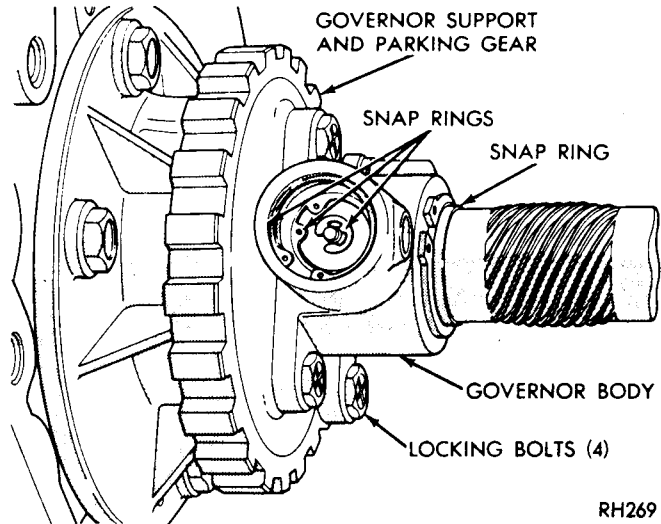

Fig. 10—Governor Snap Rings
(1) Remove extension housing and output shaft bearing as previously described.
(2) Carefully pry snap ring from weight end of governor valve shaft (Fig. 10). Slide valve and shaft assembly out of governor body.
(3) Remove large snap ring from weight end of governor body, lift out governor weight assembly.
(4) Remove snap ring from inside governor weight, remove inner weight and spring from the outer
(1) Assemble governor body and screen to the support and tighten bolts finger tight. Make sure oil passage of governor body aligns with passage in the support.
(2) Position support and governor assembly on the output shaft. Align assembly so valve shaft hole in governor body aligns with hole in the output shaft, then slide assembly into place. Install snap ring behind governor body (Fig. 10). Tighten the body to support bolts to 95 in. lbs. (11 N-m). The support bolts have a self-locking nylon patch and can be reused.
(3) Assemble governor weights and spring, and secure with snap ring inside of large governor weight. Place weight assembly in governor body and install snap ring.
(4) Place governor valve on the valve shaft, insert assembly into the body and through governor weights. Install valve shaft retaining snap ring. Inspect valve and weight assembly for free movement after installation.
(5) Install output shaft bearing and extension housing as previously described.